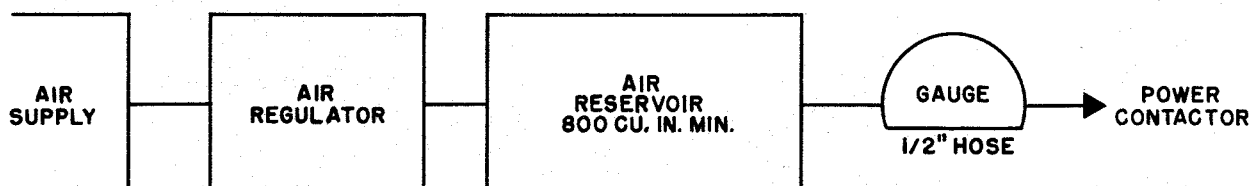

Fig. 9 - Schematic Power Contactor Air Test
1. Mount the contactor in the upright position on the test stand. Connect the contactor to an air test set up as shown in Fig. 9.
1. A contactor air test set up, as shown in Fig. 9, must be used to provide a regulated air supply which will give sufficient air pressure (50 to 70 p.s.i. measured at the contactor) and capacity for contactor operation. The air gauge must be located as close to the contactor as is practicable. Connect the contactor to the air supply.
NOTE: New contact tips must be used when making this setting; also air test set up as shown in Fig. 9 must be used.